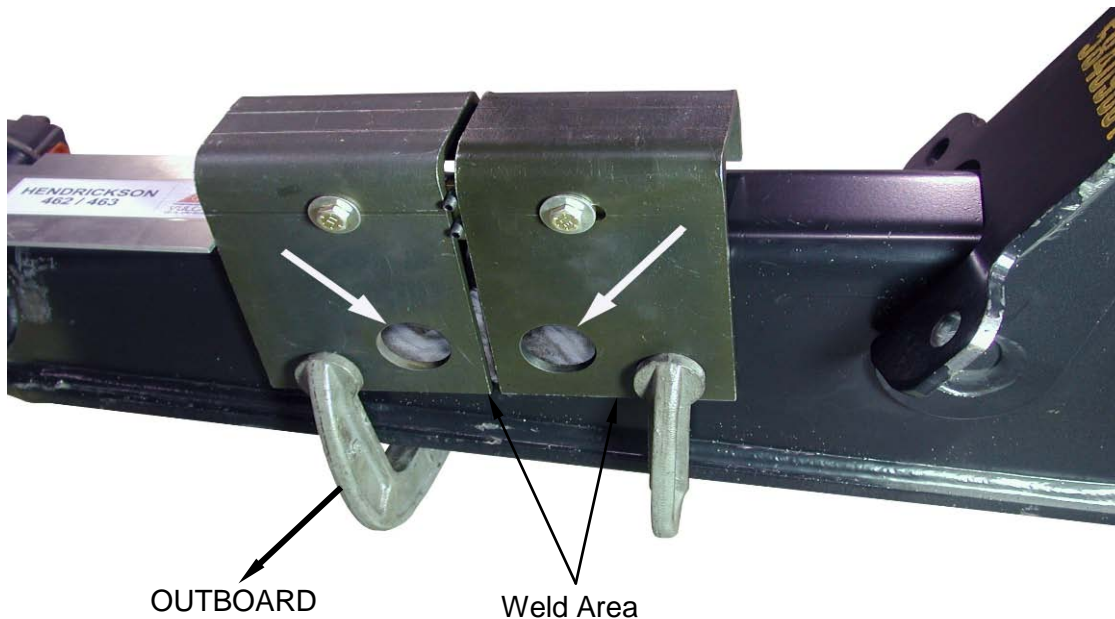

Figure 9
4. Reposition bracket assembly on beam using the Hendrickson 462/463 template. Clamp in place, see Figure 9. Make sure the angle fixture is sitting flush on the equalizing beam.